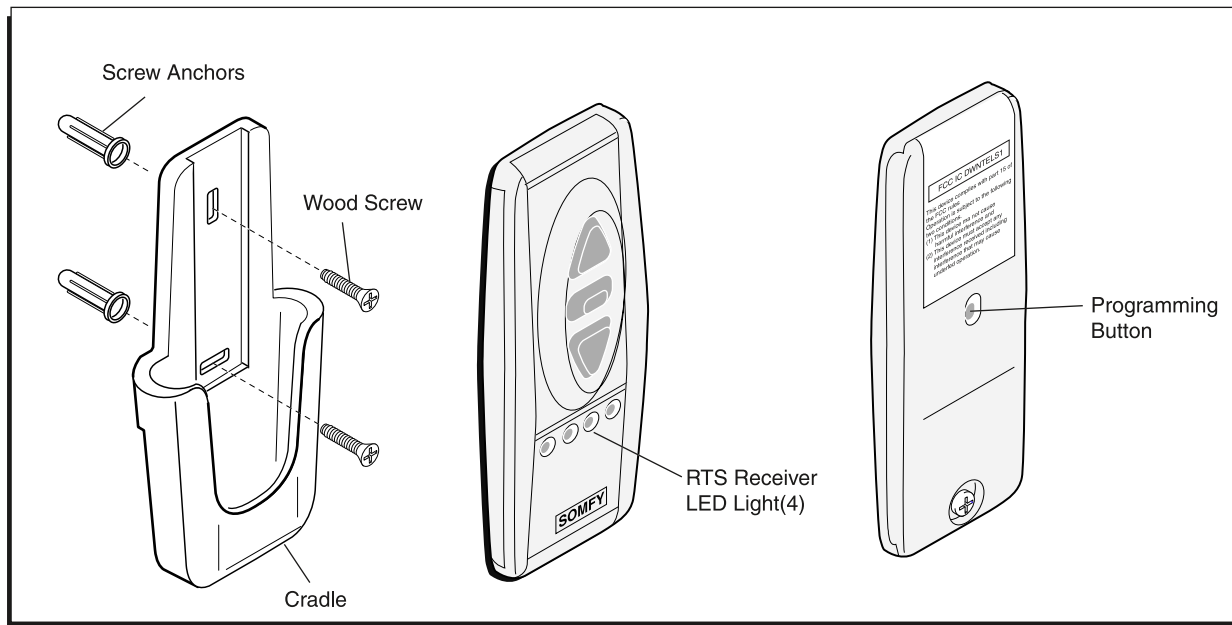

FIGURE 2
1. Press the Programming Button (PROG) of the receiver located in wind sensor control box (lower right corner) until LED lights. This indicates that for one (1) minute the receiver is ready to receive the address of the transmitter. After this time, the LED goes out.
2. Press the Programming Button on the back of the transmitter (Fig. 2) with a ballpoint pen until the receiver's LED blinks. The address of the transmitter is instantly memorized and the receiver automatically ends the programming mode.